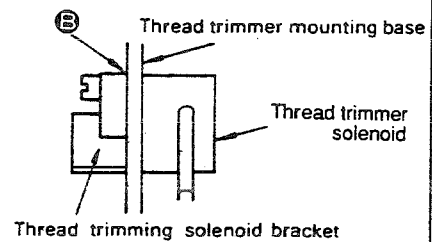

Fig. 5-38-2
- Fix the thread trimming solenoid lock nuts ② by applying LOCK-TITE No. 601 after defatting them.
- To fix the thread trimming solenoid bracket, press the cam shaft thrust collar against the cam follower after fixing the thread trimmer mounting base. Then, insert a screwdriver through ① of the thread trimmer mounting base, and tighten setscrew ③ (Fig. 5-38-2). At this time, adjust the clearance ④ between the trimming solenoid bracket and the thread trimmer mounting base to 0 mm.